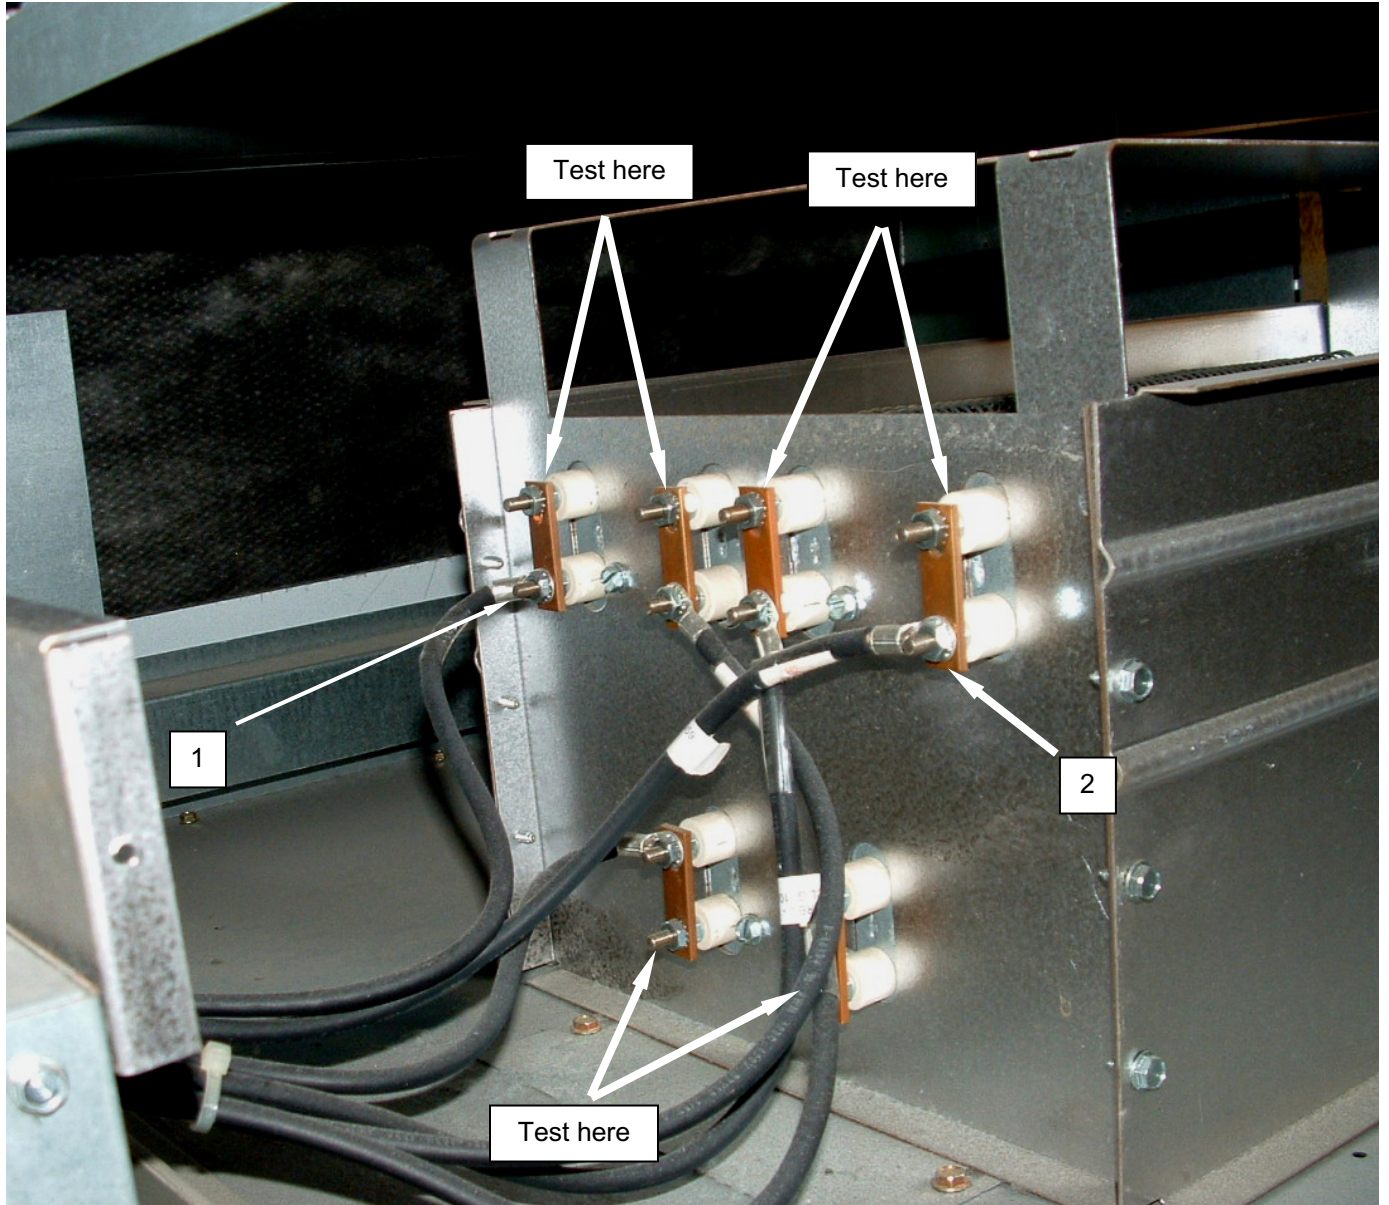

Figure 1. Test the Dryer Heating Elements.
3. Tag and disconnect the wiring from the element terminals (**Figure 1, Item 1**). Reinstall the terminal nuts (**Figure 1, Item 2**) for testing.
4. Use an ohmmeter to check for 4 ohms resistance between element terminals (**Figure 1, Item 1**) as indicated in Figure 1.
5. Use an ohmmeter to test for infinite resistance between each element terminal (**Figure 1, Item 1**) and ground.
7. Remove terminal nuts (**Figure 1, Item 2**) and reconnect wiring as tagged.